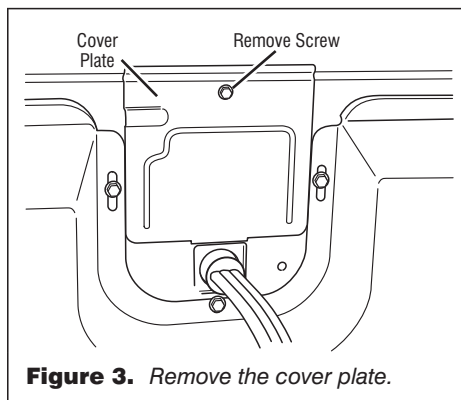

Figure 3. Remove the cover plate.
2. Remove the cover plate from the back of the dryer. See figure 3.